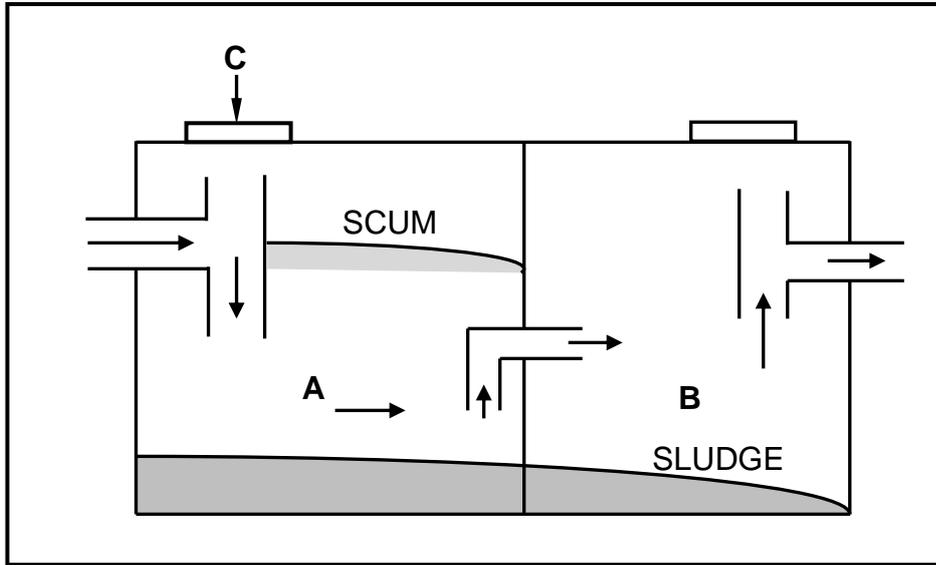

FIGURE 6.6
6.6 FIGURE 6.6 below shows a septic tank. Study the illustration and answer the questions that follow.